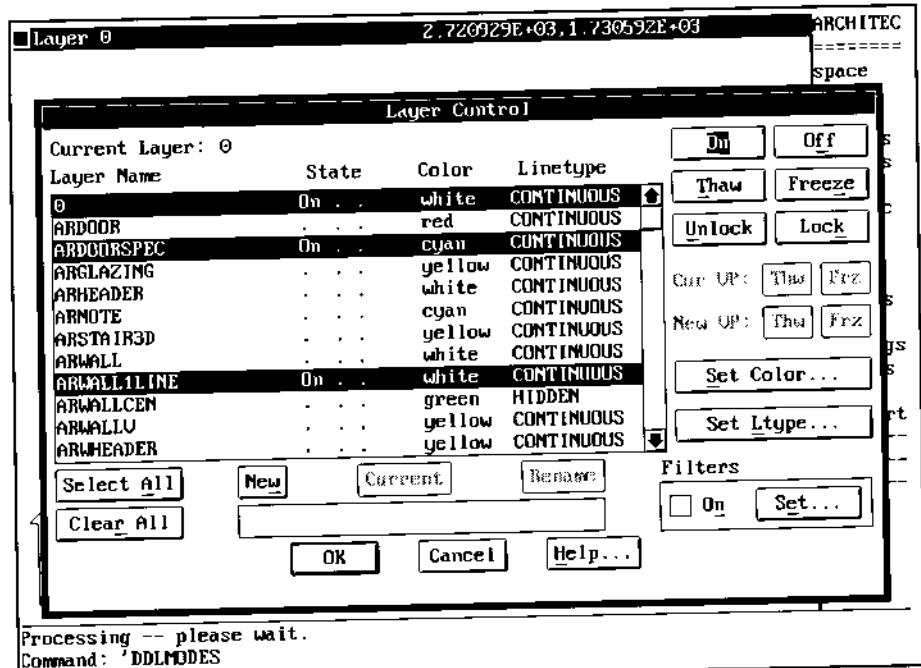

Figure 6.
4. Peruse the layering list, and select layers 0, ARDOORSPEC, ARWALL1LINE, REINFO AND RFPERIM, then pick ON as shown in Figure 6 to make these layers visible in the drawing. (Thaw layer ARWALL1LINE if it is still frozen.)